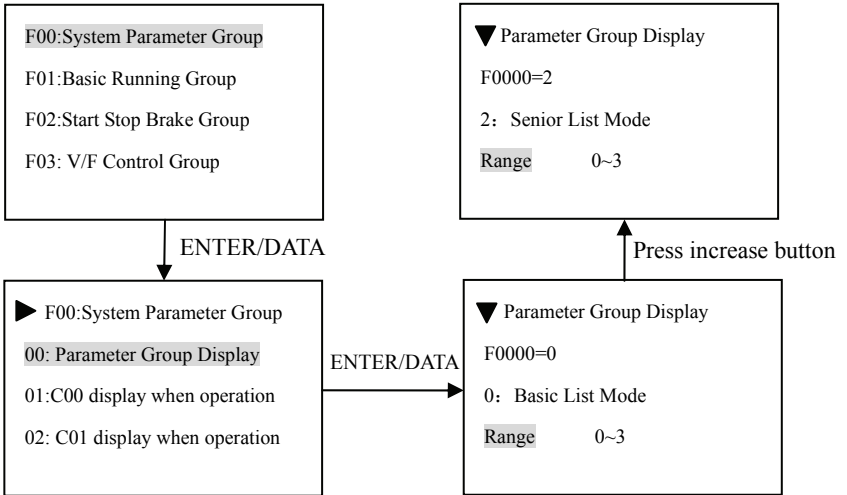

**Fig.C-4 Power on initialized display**
#### (2) Operation of switching to firstly menu (Fig. C-4):
When set F00.00=2, Senior Menu parameters F00~F27 can be displayed, 28 groups in total. Operation methods are shown as Fig. C-4.